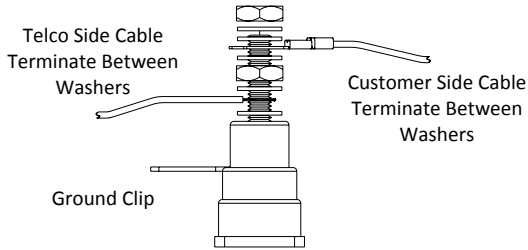

Figure 2
1. Terminate the Telco Side cable (i.e., aerial or buried drop) in between the bottom set of washers and bottom nut of the appropriate stud (one conductor to Tip and one to Ring). Tighten down the nut (Figure 2).
2. Terminate the Customer Side cable under the top set of washers and the top nut of the appropriate stud (one conductor to Tip and one to Ring). Tighten down the nut (Figure 2).